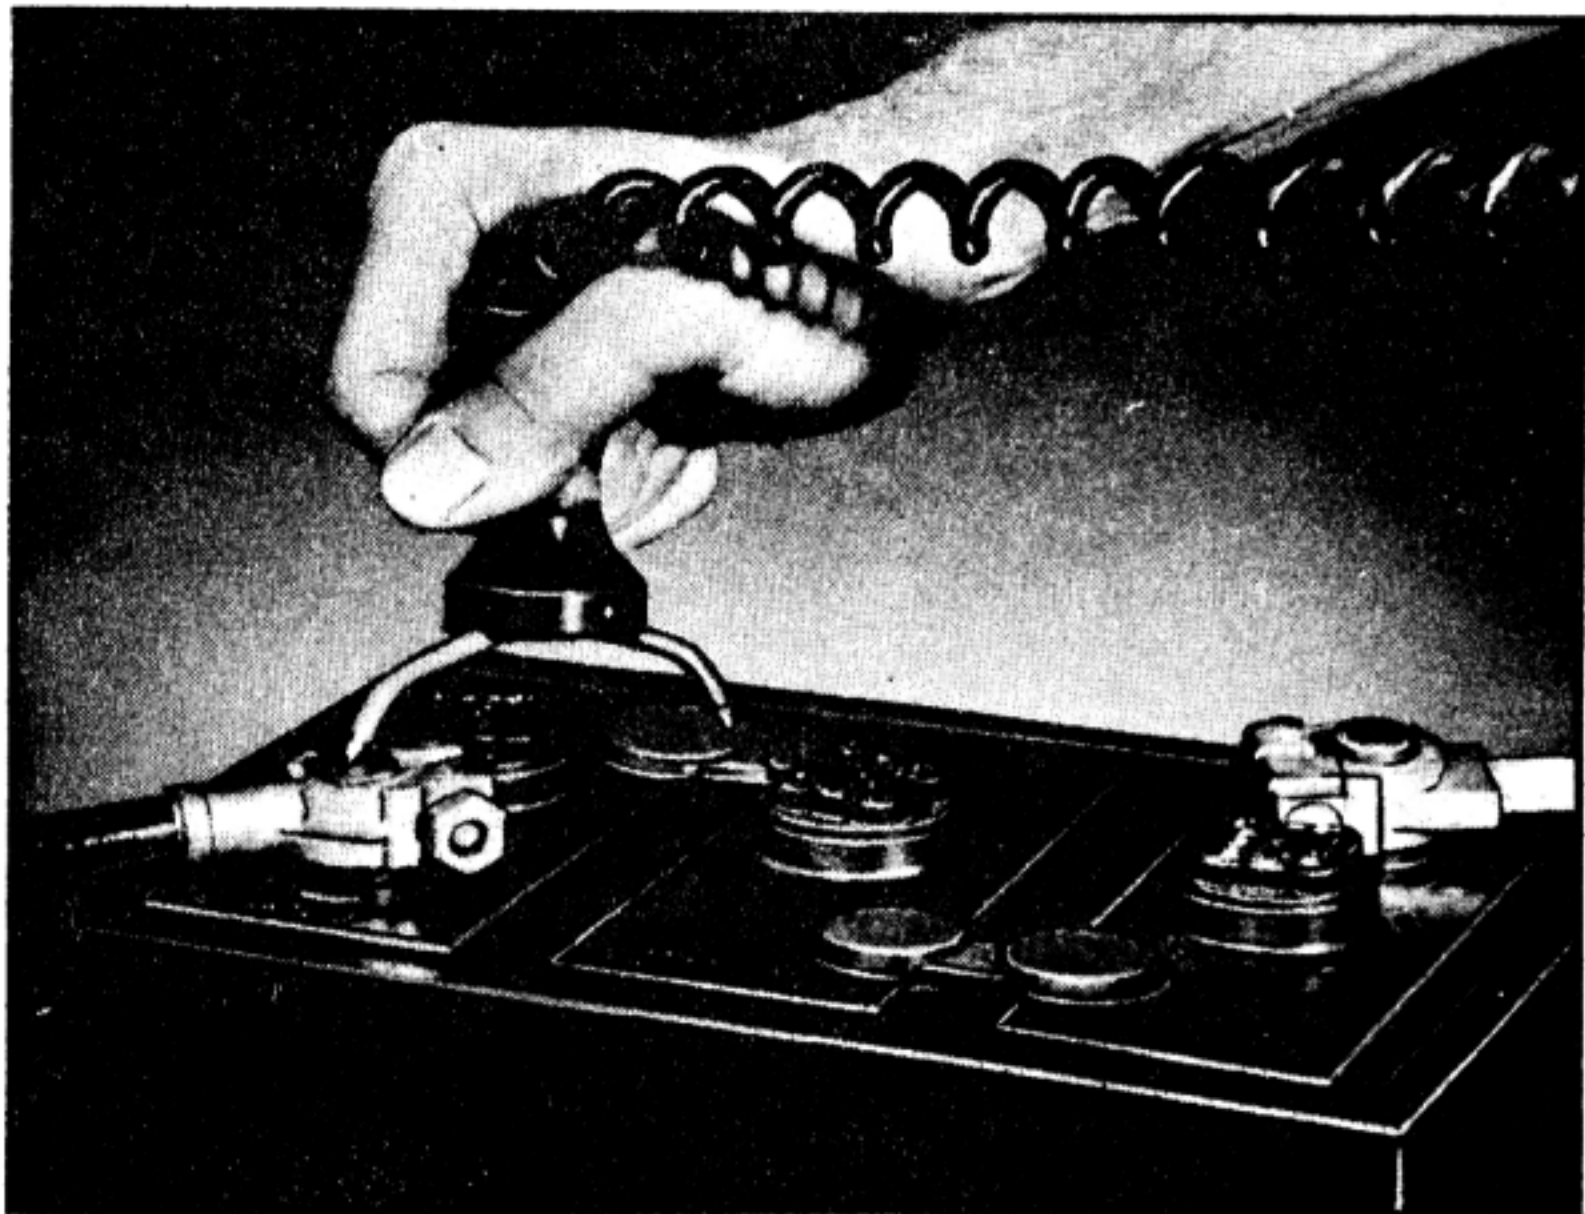

Figure 4: Take reading of each cell while starter is turning over engine.
4. Take readings of each cell, using top left scale marked "LOAD" while starter is turning engine over. Be sure tester prods contact battery cell posts and not cable terminals. (See Figure 4.)